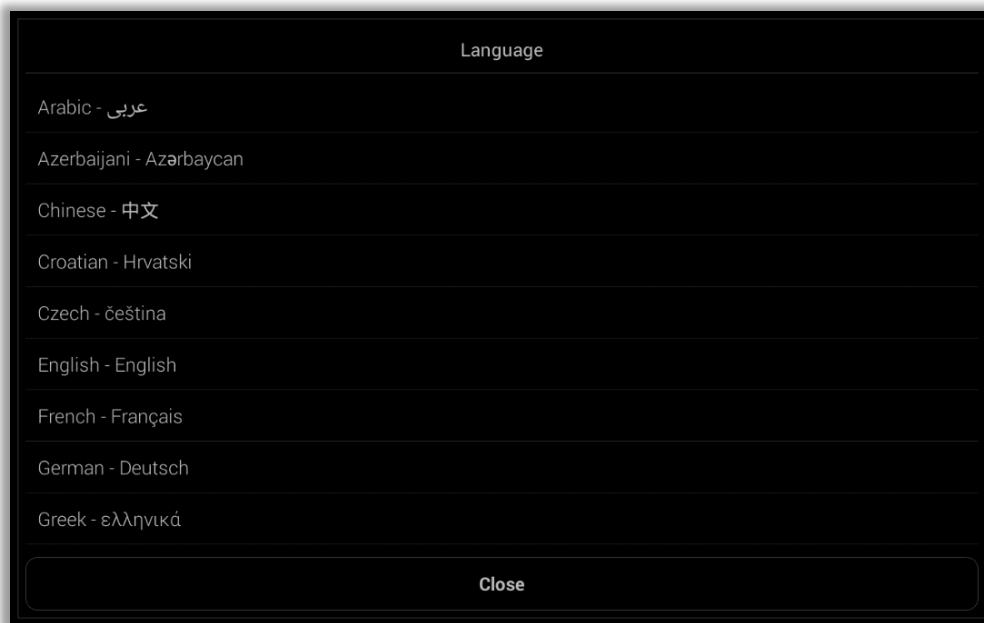

Fig. 52: Language List
- 2 By pressing this touch button, set the Language of the panel. The list of languages opens on the screen (Fig. 52). The language to be set is selected in the list.